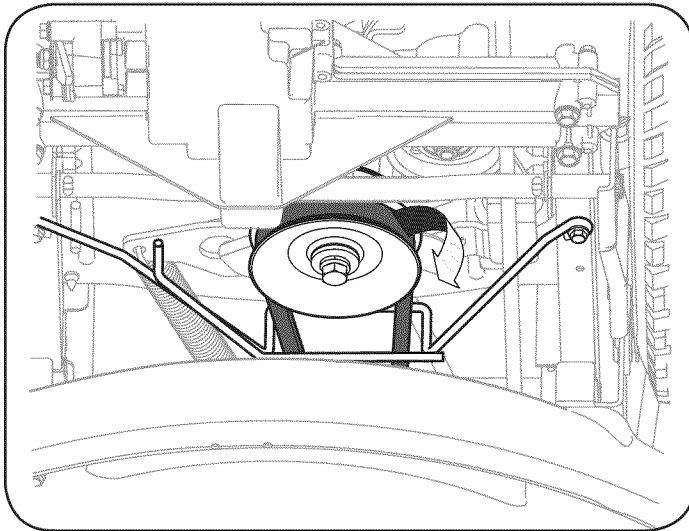

Figure 31
3. Remove the belt from around the tractor's PTO pulley. See Fig. 31.
2. If changing the deck belt with the cutting deck still installed on the unit, lower the cutting deck to the lowest cutting position. Remove the deck belt from around the unit's PTO drive pulley as shown in Fig. 31. Simply roll one side of the belt off of the pulley and then work it off the pulley by continuing around the pulley until the belt is off of the pulley.
3. Pull the belt towards the rear of the unit, pulling it through and out of the belt keeper bracket, shown in Fig. 31.
7. Feed the deck belt through the belt keeper bracket and work it around and onto the PTO drive pulley as shown in Fig. 31.